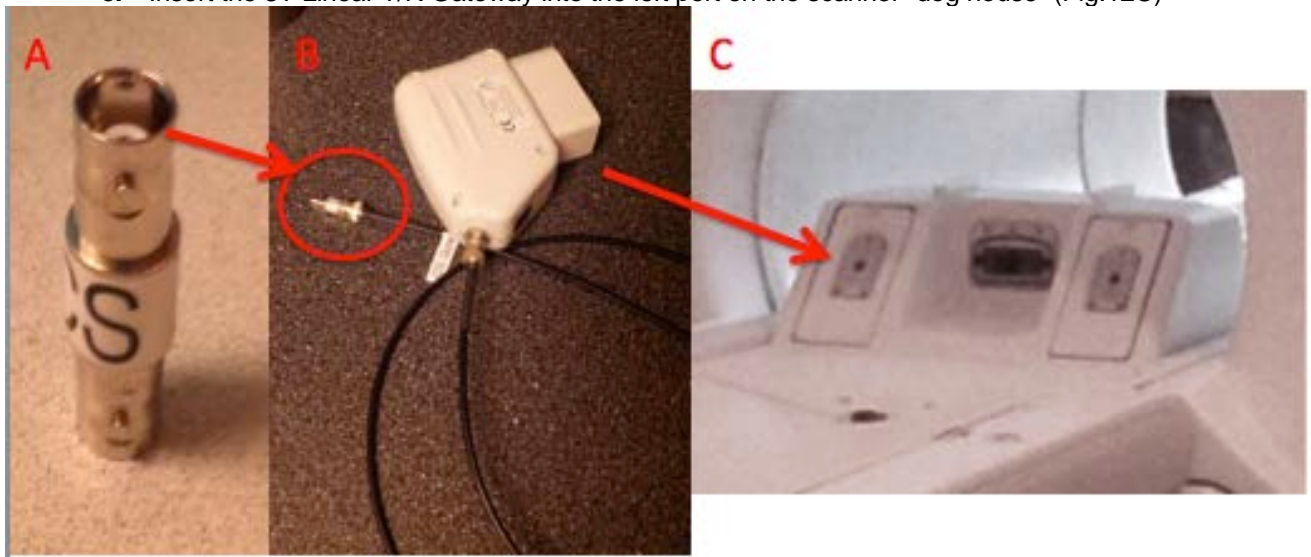

Figure 12. Connecting the 3T Linear Gateway
- 21) Connect the 3T Linear T/R Gateway (RF coil adaptor) to the “dog house” (Fig. 12):